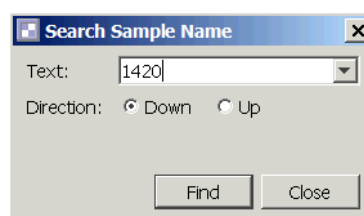

Figure 4.24 Entering and Selecting Find Parameters
- If using the Find box, select Tree or Table (Figure 4.24).